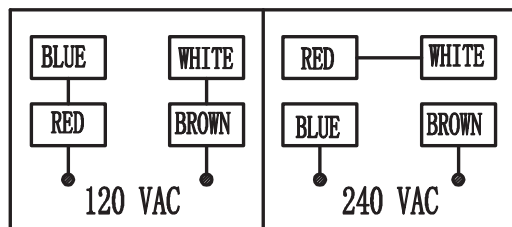

Figure 4 – Wiring Diagram
- Motor and wires are installed as shown in wiring diagram (See Figure 4, page 5). Motor is assembled with approved, 3-conductor cord to be used at 120/240 volts. Motor is prewired at the factory for 120 volts.